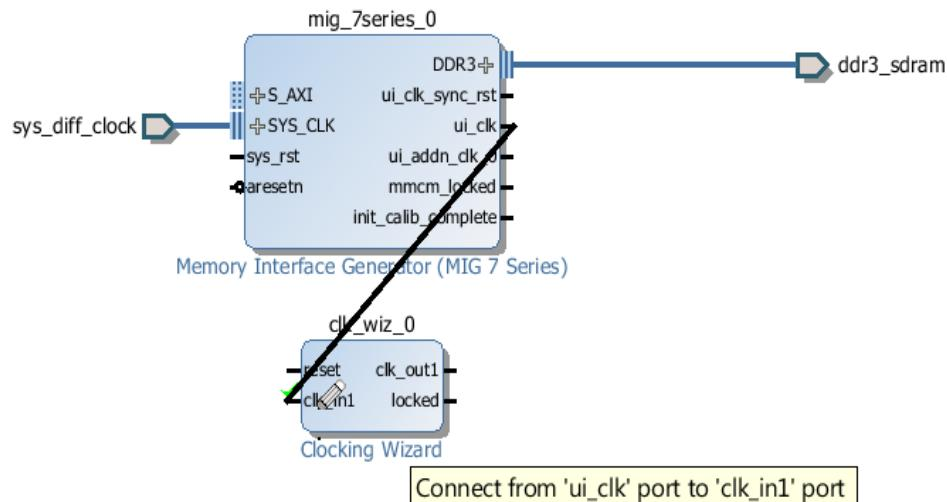

Figure 5-10: Connect ui\_clk to clk\_in1
1. Connect the ui\_clk or ui\_addn\_clk\_0 output of the MIG IP, as well as any other clocks generated, to the clk\_in1 input of the Clocking wizard, as shown in Figure 5-10, page 121.